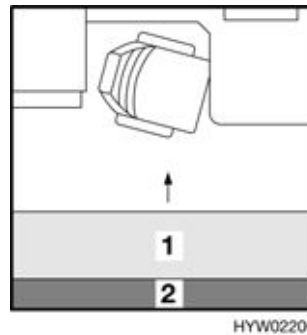

Fig. 96 Prior to conversion
- Lift the divan slightly (Fig. 96,1) and pull out as far as possible.
- Remove the additional cushion (Fig. 96,2) from the back cushion. The additional cushion is fixed to the back cushion with Velcro and can easily be separated.